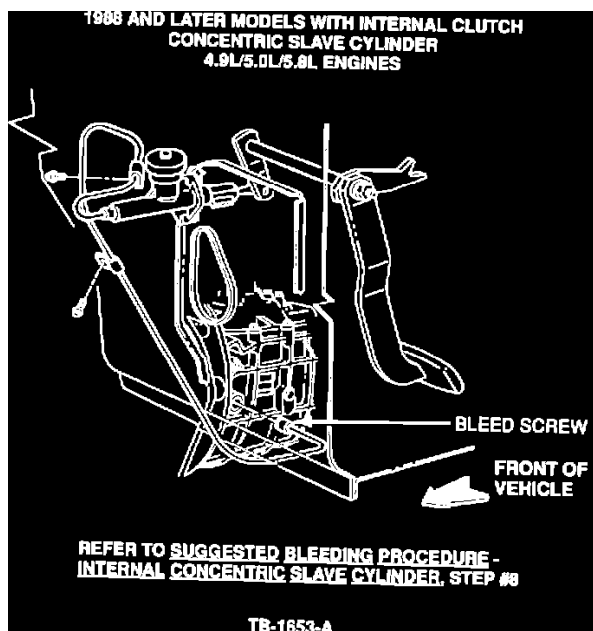

Figure 13
4. Open the slave cylinder bleed screw and watch for escaping air, Figure 13.